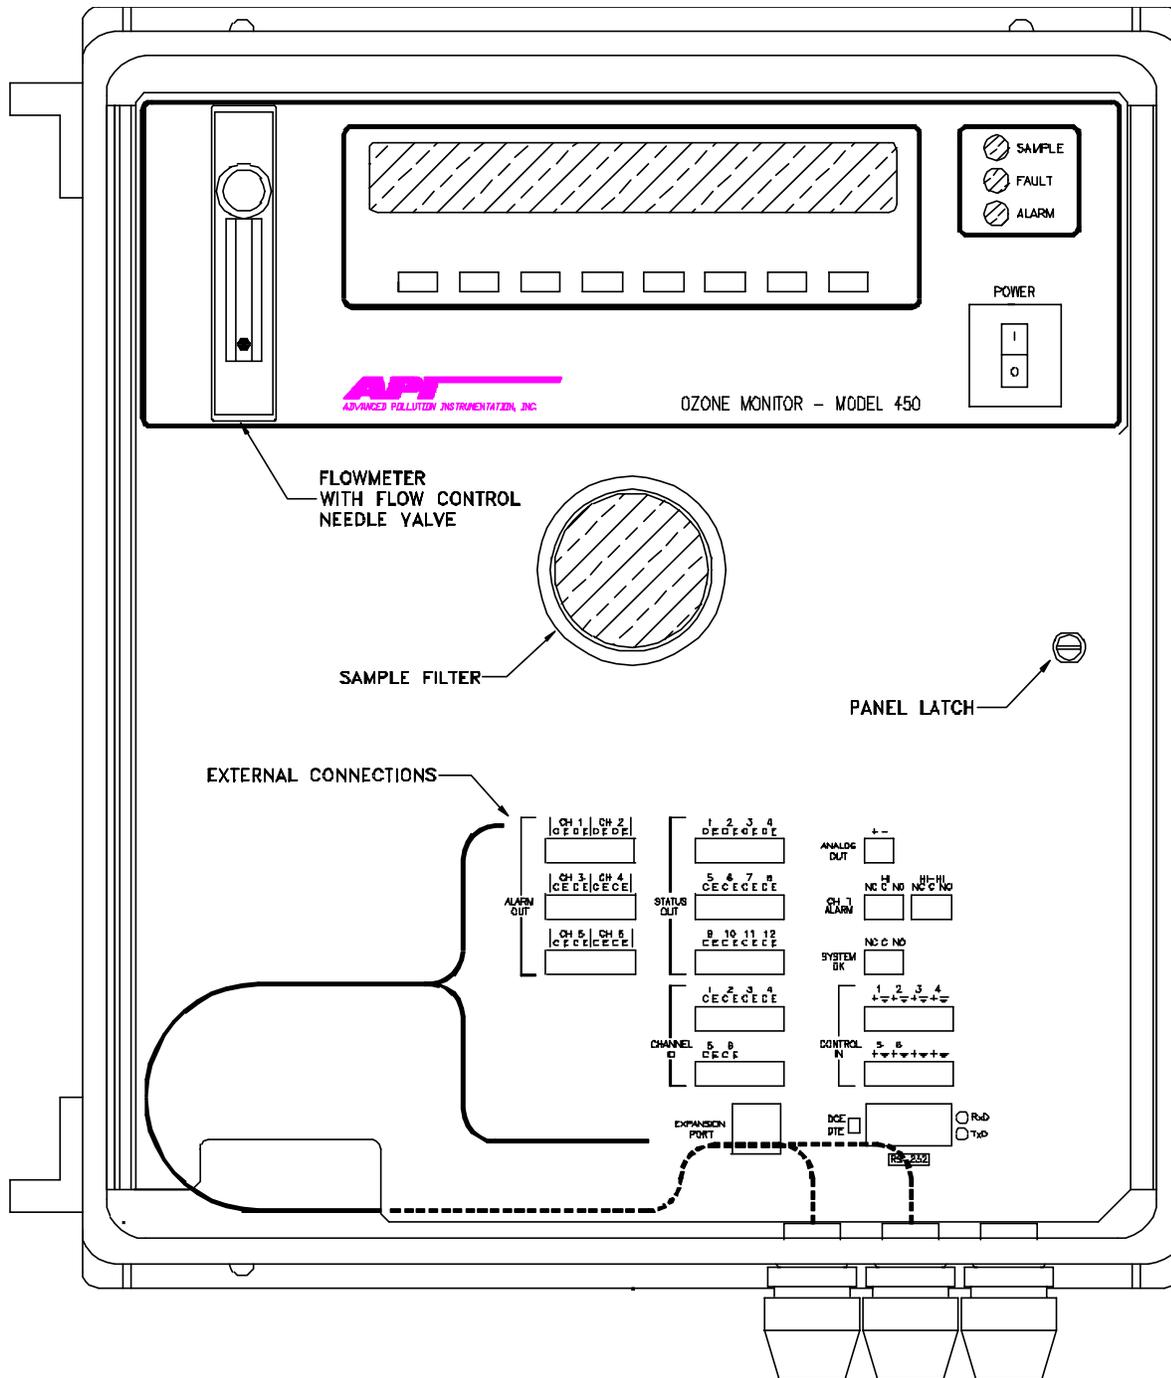

FIGURE 1.4 – NEMA 4X FRONT PANEL
6. Route signal wires into the enclosure through the conduit bulkheads. These wires should be routed up to the front panel through the notch in the lower left-hand corner of the front panel as shown in Figure 1.4. Make sure to allow enough extra length in these wires so that the panel can still swing open without stressing the wires.